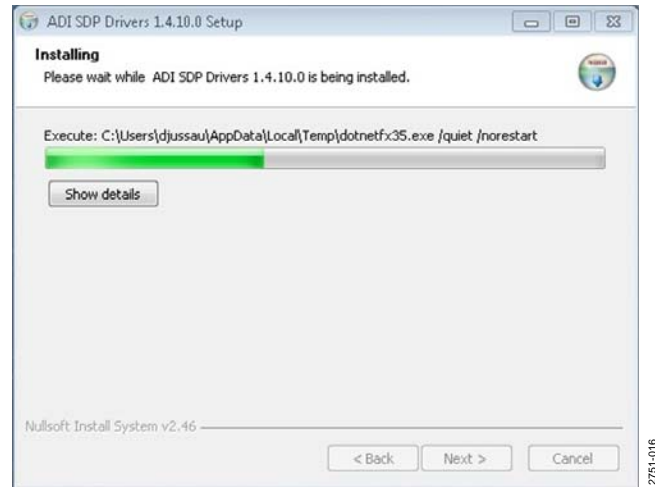

Figure 19. Installing Window
2. Allow the Analog Devices SDP drivers file to install (see Figure 19).